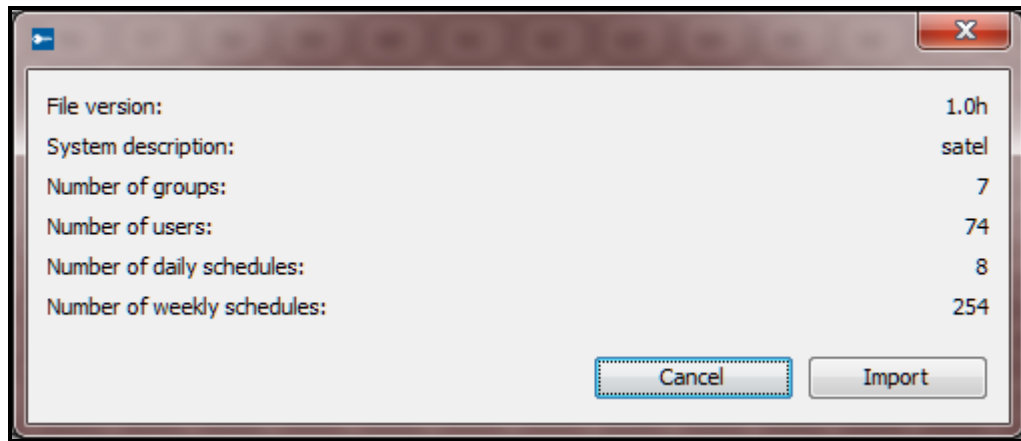

Fig. 44. Window with information on data imported from the ACCO-SOFT-LT program.
8. Window with information on imported data will open (see: Fig. 44). Click the “Import” button to start the data import procedure. After completion of the procedure, a message will be displayed to inform you about it.
Continue – click to confirm the entered data. A window with information on the data imported from the ACCO-SOFT-LT program will open (see: Fig. 44).